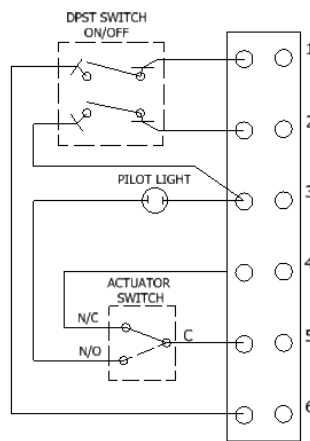

Figure 3
1. The HS589 Control Unit must be hardwired. See (Figure 3) for factory internal wiring diagram.